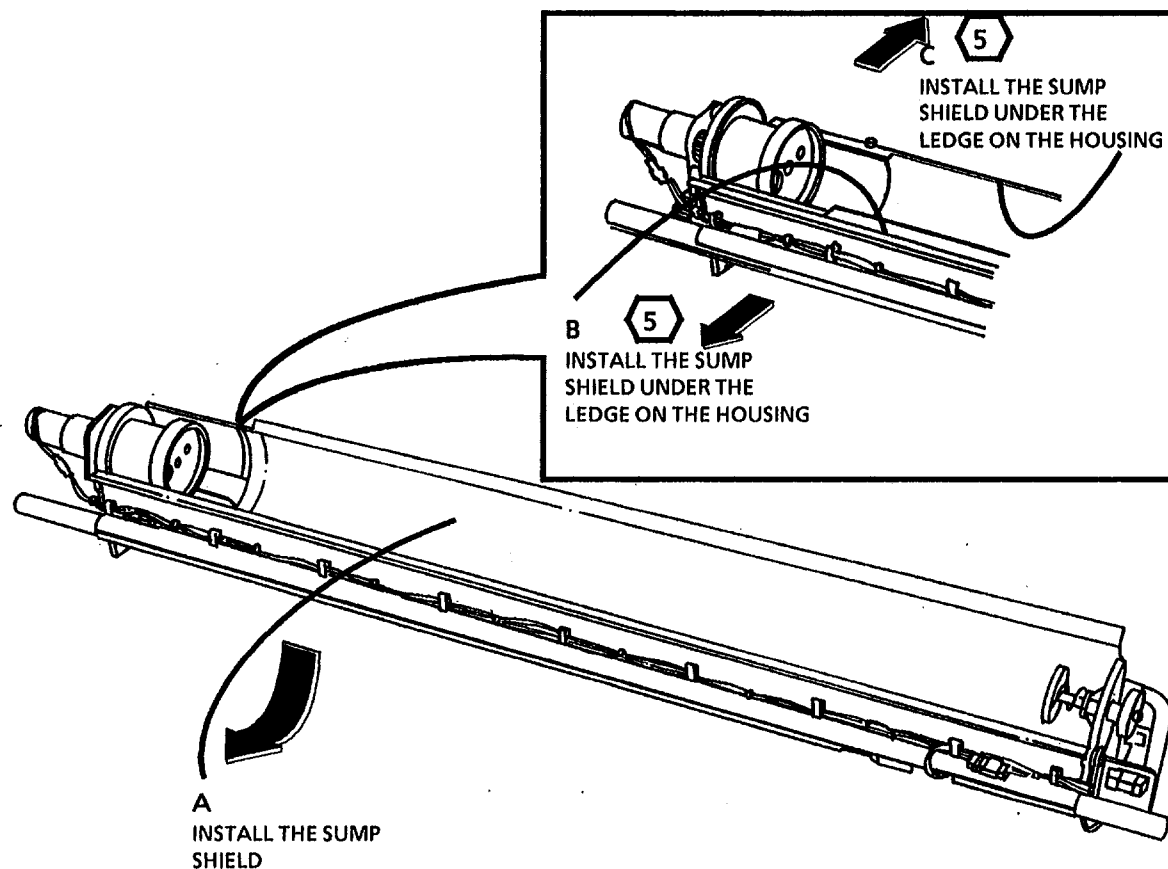

Figure 7. Install the Sump Shield in the Developer Module
2. (Figure 7): Install the Sump Shield in the Developer Module.